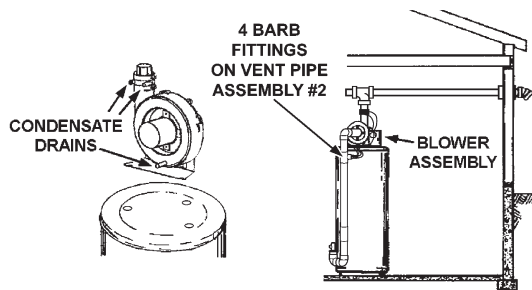

FIGURE 17.
3. The blower discharge adapter is made to accept only straight sections of 2" pipe. To start, a minimum of 2 inches (5.1 cm) of 2" pipe must be attached to the blower discharge, see Figure 17.
4. There will be some installations where condensate will be formed in the horizontal runs of the vent system. This condensate will run into the condensate boot attached to the blower and out the fitting. The water heater is shipped with condensate hose that attaches to the fitting on the condensate boot. No other Tee or fitting is required. See Figures 17, 20 and 21.
This water heater is a condensing unit and requires a drain to be located in close proximity to allow condensate to drain safely. One hose from blower housing and two flexible hoses from blower outlet adaptor run to barb fittings on vent pipe assembly #2. Hose is clamped by rubber clips and flexible hoses by a clamp on jacket top cover. See Figure 17. Condensate drains from the unit at the exhaust tee located at the bottom of the unit (see figure 16). Condensate from this water heater is mildly acidic. Please note that some local codes require that condensate is treated by using a pH neutralizing filter prior to disposal.
Condensate is likely to form in the venting system attached to this water heater. The vent pipe should be sloped downward away from the blower assembly (not less than 1/8" (3.2 mm) nor greater than 1/2" (12.7 mm) per foot (30 cm) maximum). If the vent piping is vented level or sloped upwards away from the blower assembly, then adequate means for draining and disposing of the condensate needs to be made by the installer. Two 3/8" condensate hoses should be connected to the built in drain ports of blower outlet adaptor. The unused barb fitting on vent pipe assembly #2 should be plugged with one of the break-away plugs. See Figure 17.
3. Condensate drains from three locations on blower assembly. See Figure 17. One flexible hose runs from bottom of blower housing; two run from the ports of rubber connector at the outlet of blower. All these three condensate hoses are connected to barb fittings at vent pipe assembly #2. The hose from bottom of blower housing is clamped by two clamps and the two hoses from rubber connector are harnessed by another clamp. Make sure there is no kink or twist.